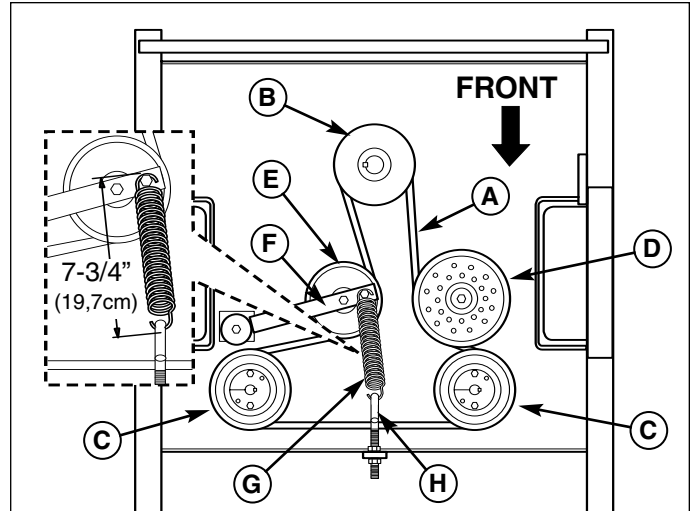

**Figure 31. Mower Deck Adjustment**
3. Adjust the 5/8" hex nuts on either side of the front spring rod pivot (see Figure 31) until the rear lower edge of the mower deck directly behind the chain is 3-5/8" (9,2cm) from the floor.
5. With the deck height adjustments complete and cutting height still set at 4", adjust the deck lift spring to a compressed length of 12-1/4" (31,1cm). Be sure to measure the spring only. Adjust the length of the deck lift spring by tightening or loosening the (2) 5/8" hex nuts that are closest to the spacer at the front end of the spring (see Figure 31). After adjustment is made, tighten these two nuts together. Perform this step to both springs.